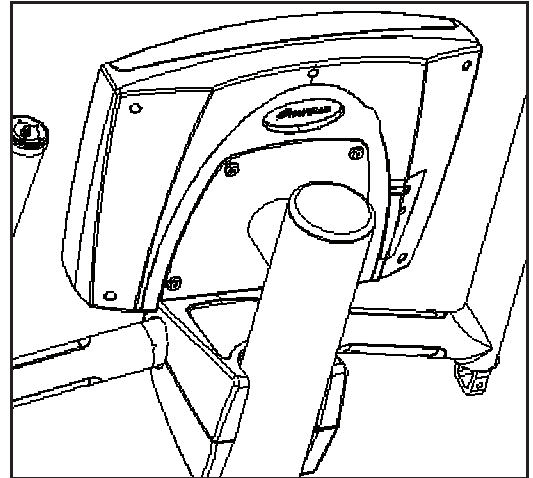

Figure 9
- 6-1** Remove the 4 Phillips screws attaching the SC916 Console to the upper mast weldment previously placed to the side in Step 3 (see Figures 9 and 10).